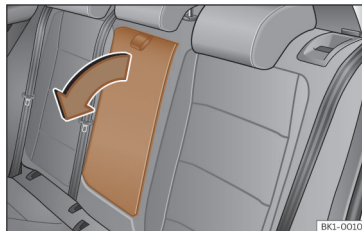

Fig. 104 Folding rear centre armrest (schematic view).
- To *lower* the armrest, pull the cord in the direction of the arrow >>> **Fig. 104**.